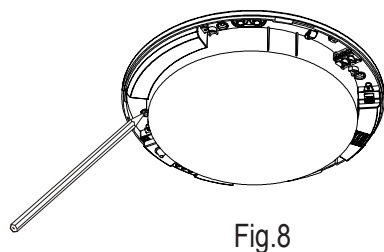

Fig.8
- Step3 Put the base of the product on the ceiling to make the drilling mark (as Fig.8)